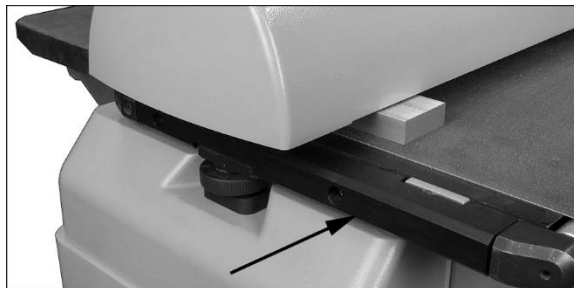

Figure 10
1. Remove left side cover (Figure 10) by removing two socket head screws with 4mm hex wrench.